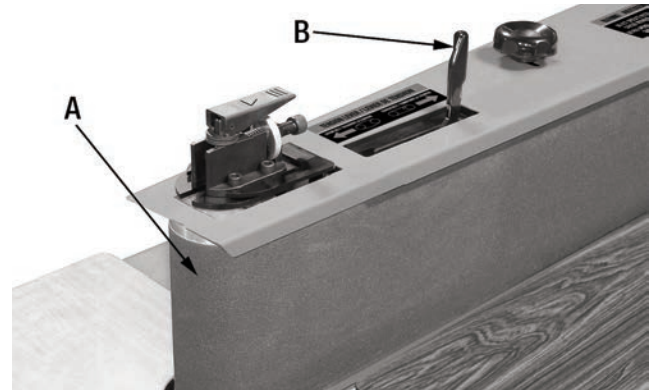

FIGURE 8
- 1) Make sure the sanding belt (A) Fig.8 is properly tensioned, the tension lever (B) must be positioned to the right as shown.